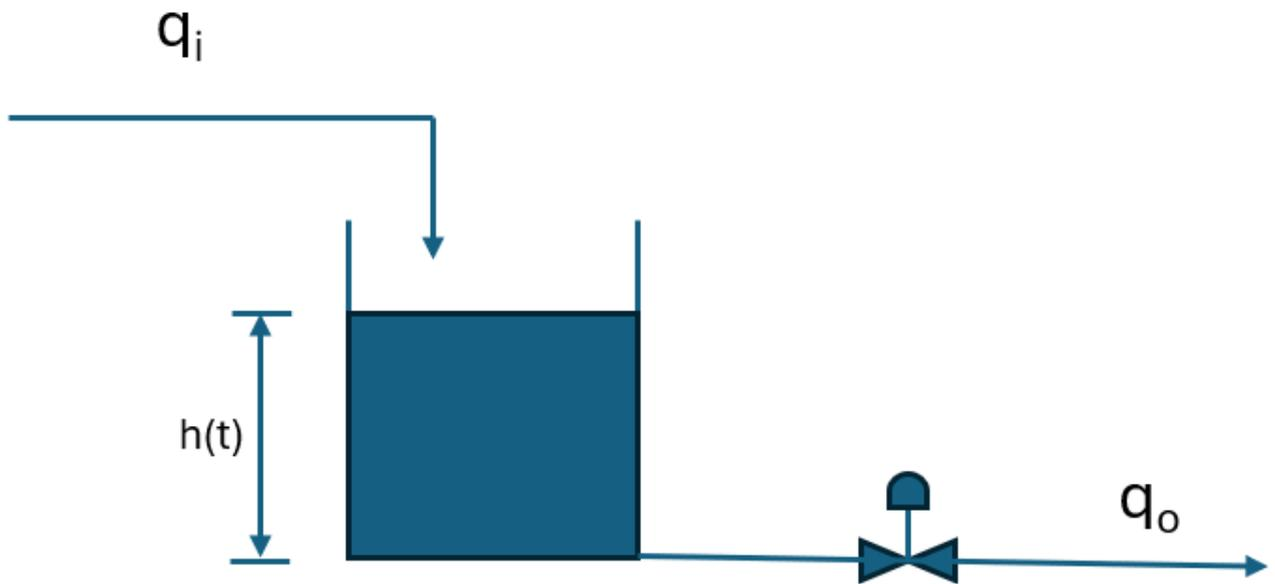

Fig. Q3(a). Tank drainage through a valve.
(b) Consider the process shown in Fig. Q3(b). Liquid is pumped through an air-to-open (AO) control valve installed on the outlet of the tank. A feedback level control strategy is implemented to control the level in the tank. The AO linear control valve receives an input signal from the controller between 3-15 psig resulting in a flowrate range 0-300 L/min. At 9 psi the linear valve is half open and at 15 psi the maximum flow rate through the valve is 300 L/min.